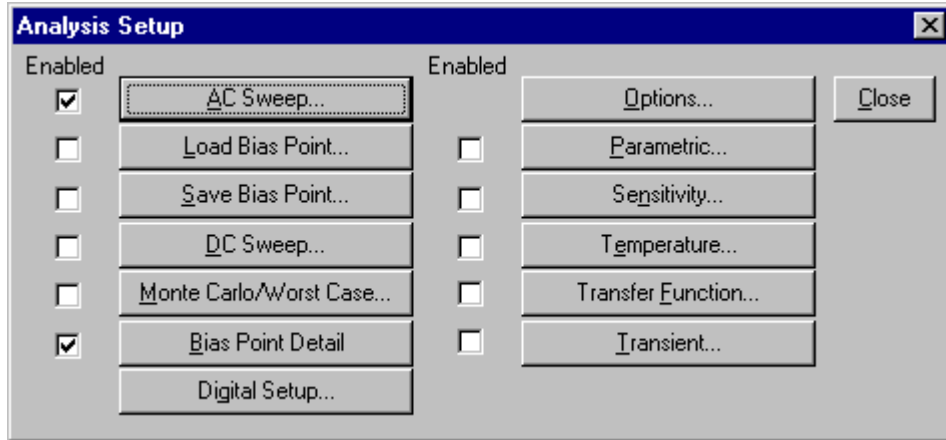
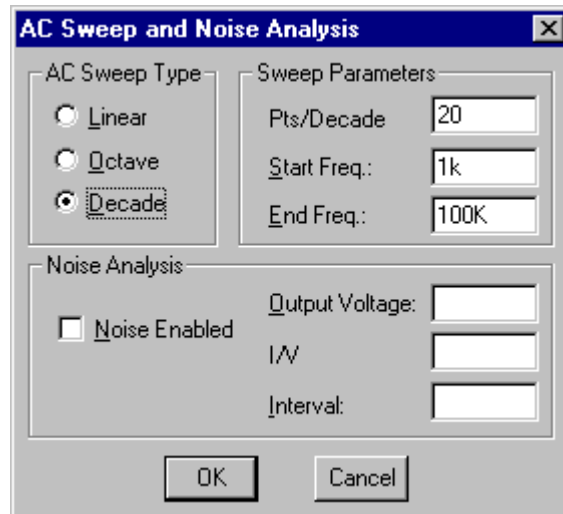

Figure 7: Analysis Setup Menu
Figure 8: AC sweep Analysis Setup Menu
With the circuit captured using the Schematics we now need to decide how to tell PSpice to get the frequency response. PSpice can perform several types of analyses. By choosing Analysis → Setup you are presented with the choices shown in Figure 7. We need to decide which analysis will suit our needs.
From equation (1) it can be seen that magnitude and phase of  $\vec{V}_2$  are dependent on the frequency. An evaluation of  $\vec{V}_2$  for various frequencies is called AC Sweep. On clicking the AC Sweep box of the menu in Figure 7, a box as in Figure 8 will open. To setup our analysis here are the steps: Analysis → Setup → AC Sweep → (Decade; Pts/Decade: 20; Start Freq: 1k; End Freq: 100k) → OK etc.